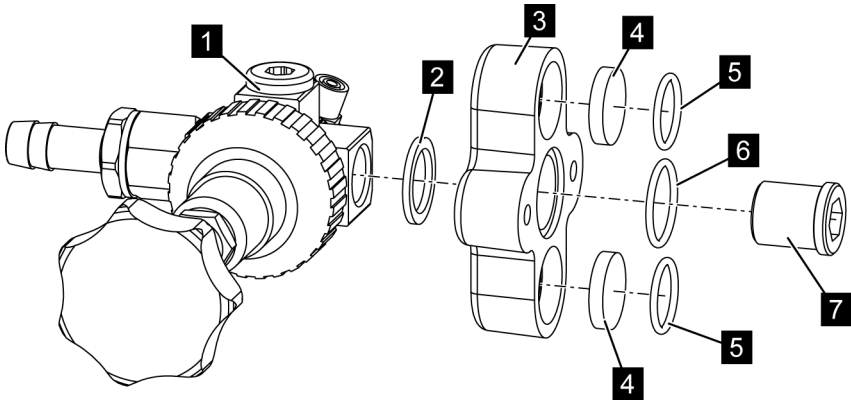

Fig. 16: Pressure controller
8. ➤ Unscrew the fastening nipple (Fig. 16/7).
9. ➤ Replace the seals (Fig. 16/2, 5 and 6).
10. ➤ Remove the sound absorber (Fig. 16/4) from the valve adapter (Fig. 16/3) hand check for wear. Replace it as necessary.
11. ➤ Screw the new pressure controller (Fig. 16/1) in place with the fastening nipple (Fig. 16/7) as shown.